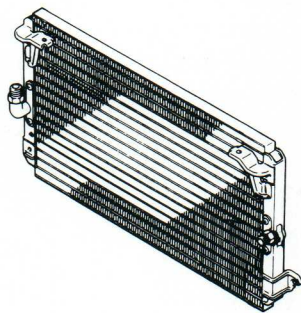

Figure 215-3
**Condenser** (Figure 215-3): The condenser mounted at the front of the car acts as a radiator, drawing off some of the heat of compression, and changes the high-temperature gas into a liquid under high pressure. When operating normally, the top of the condenser is full of hot liquid.